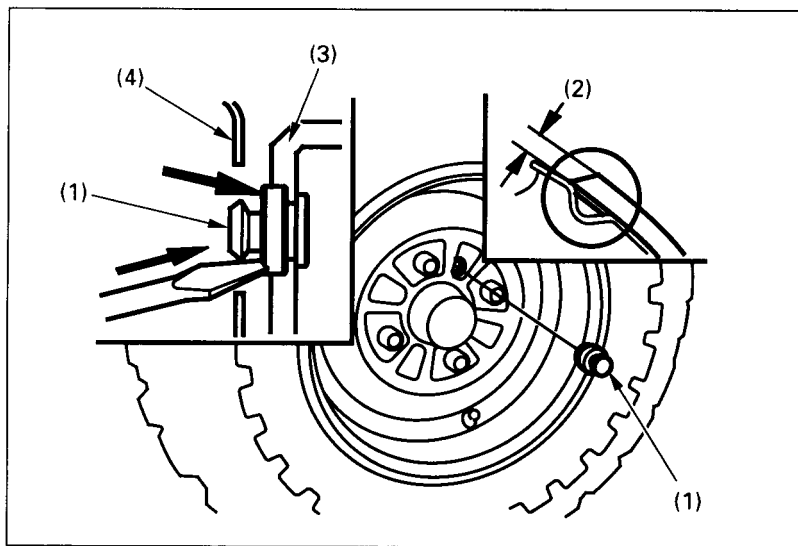
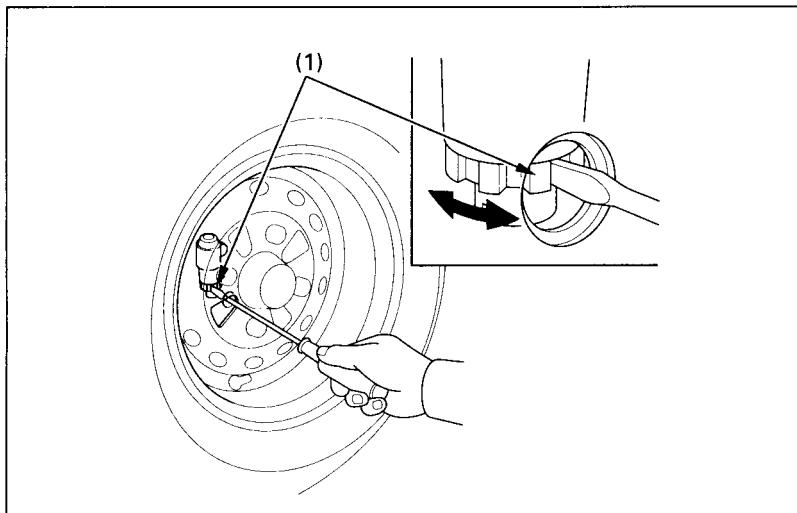

Fig. 4-24 (1) Inspection hole plug (2) Lining thickness (3) Front brake drum (4) Front wheel rim
Fig. 4-25
1. Measure the distance the brake lever (Fig. 4-24) moves before the brakes start to take hold. Free play, measured at the tip of the front brake lever (1) should be:
(1) Front brake lever
2. Remove the inspection hole plug (Fig. 4-24) and measure the lining thickness (2) on both front wheels.
3. If the brake lever free play and the brake shoe lining thicknesses are within the recommended limits, reinstall the inspection hole plugs, seating them into the inspection holes as shown in Fig. 4-25.
3. Beginning with either the left or right front wheel, remove the inspection hole plug (Fig. 4-24) and line up the hole with one of the brake adjusters (Fig. 4-25).
4. Using a screwdriver, turn the brake shoe adjuster (1) in the direction of the arrow until the front brake locks.
(1) Brake adjusters
7. Reinstall the inspection hole plug, seating it into the inspection hole as shown in Fig. 4-24.